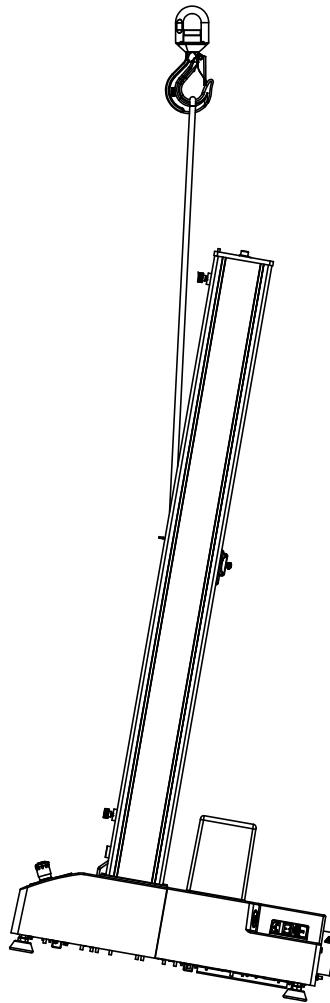

Figure 12. Lifting Load Frame with a Crane
1. Attach the lifting sling to the crosshead and secure it to the crane hook such that the sling extends vertically from the FRONT of the crosshead as shown in Figure 12 on page 65. If you use chains in lieu of a lifting sling, wrap protective material around the crosshead to protect the crosshead from scratching and marring.